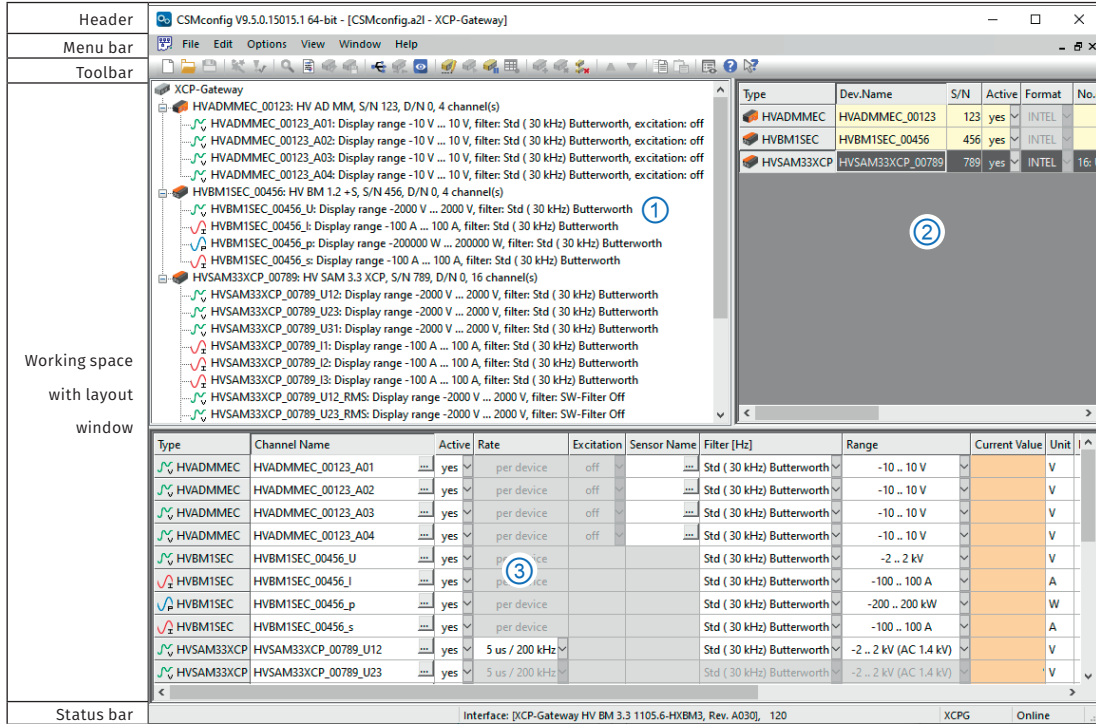

Fig. 5-1: CSMconfig user interface
- ▶ **Tree view** (Fig. 5-1, ①)
- ▶ **Device list** (Fig. 5-1, ②)
- ▶ **Channel list** (Fig. 5-1, ③)